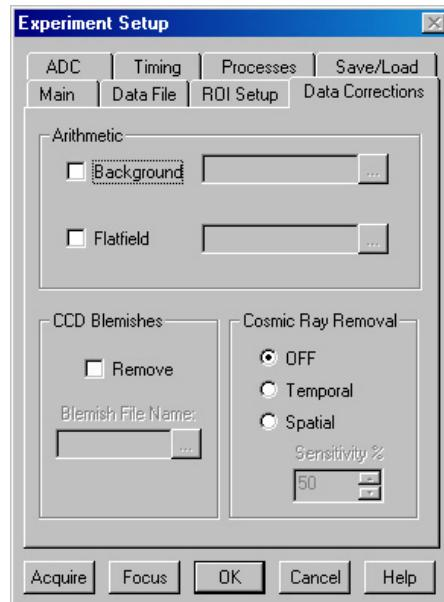

Figure 43. Data Corrections tab page
4. On the **Data Corrections** tab page (Figure 43) all of the correction functions should be OFF.